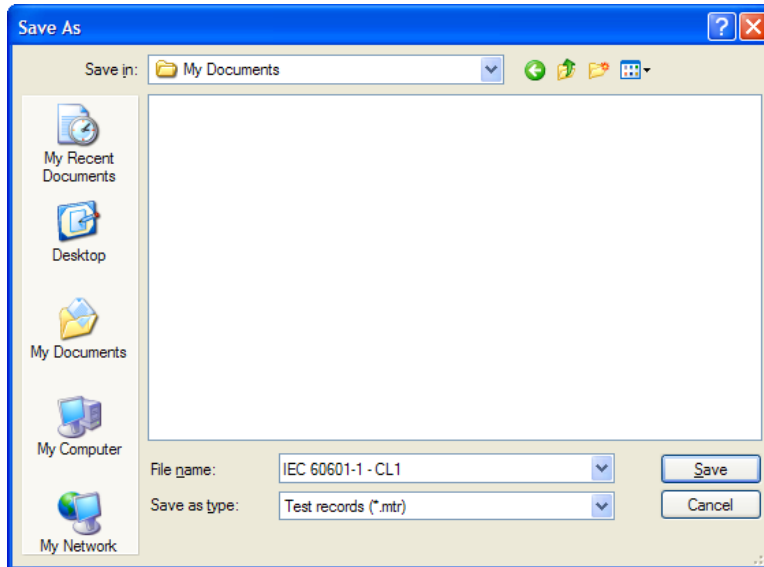

Figure 3-16. Save As Dialog Box
1. Click File Save on the main menu or click the save toolbar button (📁). The Save As dialog box opens as shown in Figure 3-16.